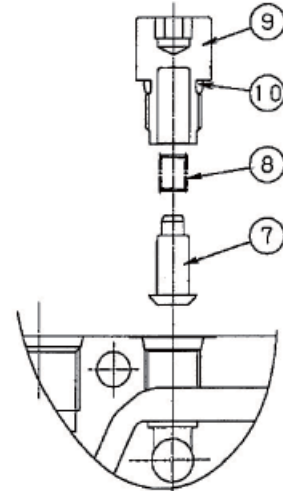

Figure 6. Check valve
- The numbers in figure 6 are the same as those in the dozer block in the specifications and drawings.